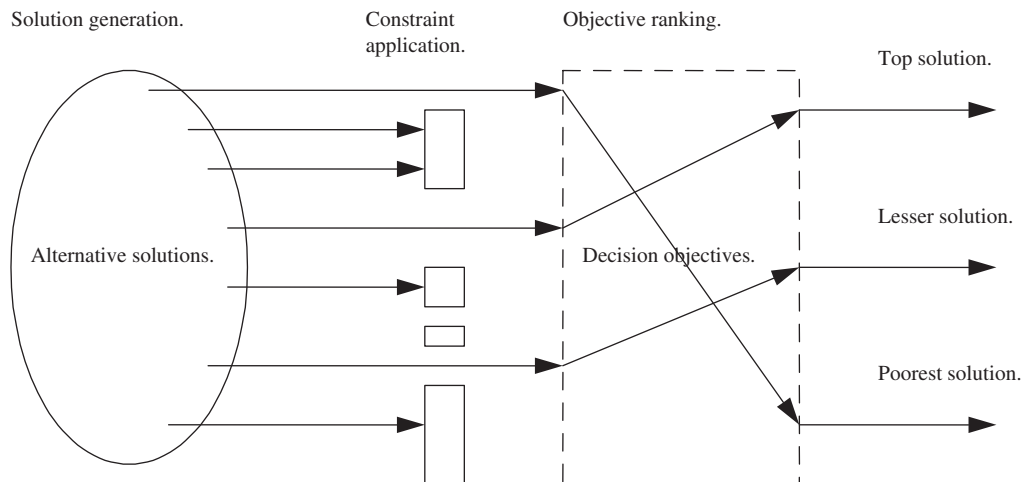

FIGURE 5.1
The process of making decisions involves (1) establishing the decision context and motivation, (2) generating and identifying good alternatives, (3) comparing objectively, and (4) making strategic decisions. To make a decision you must begin with the following listed elements to set the context and motivation for the choice. Figure 5.1 illustrates the basic approach where infeasible solutions are eliminated and the remaining options are ranked.